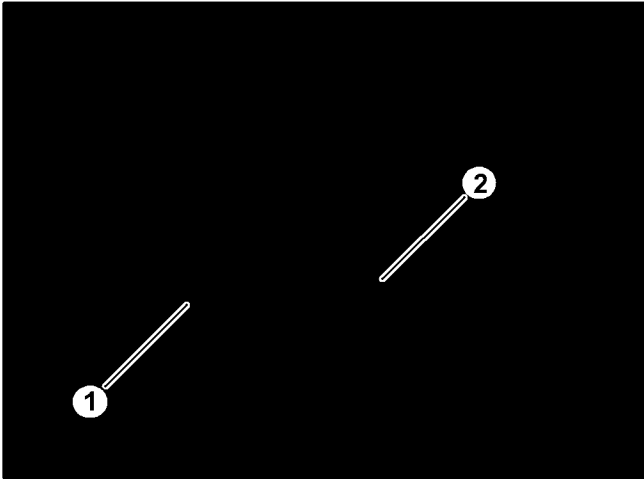

FIGURE 2
2. Loosen the reel clamps and pivot down and away from chassis. With the pulley end toward the engine side of unit, set the reel into place against the chassis. Bearing guides on the reel will provide correct alignment. Refer to Figure 2.